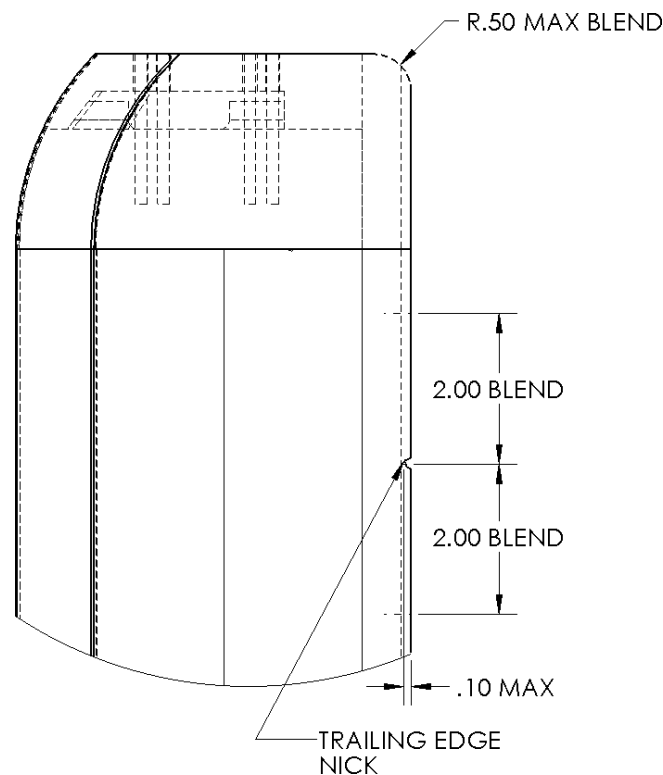

Figure 5-2
- f. Scratches, nicks, or fiber damage in the extreme trailing edge 0.10 inches deep or less may be blended out using a ratio of 20:1 (maximum length of blend is 2.0 inches each side of the damage). See Figure 5-2.
- g. Damage at the tip trailing edge corner may be removed by blending up to a 0.50 inch radius at the tip. See Figure 5-2.